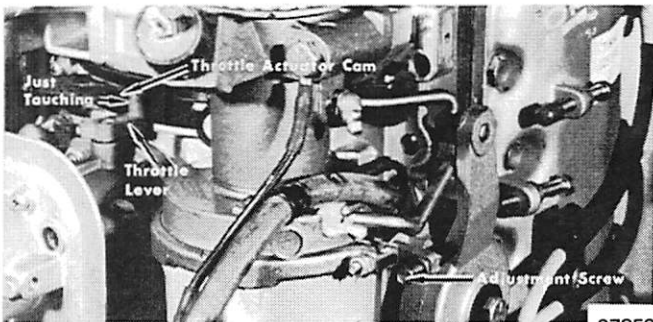

Figure 2. Adjusting Primary Pickup
4. To set primary pickup (Figure 2), advance spark as specified above and advance throttle actuator cam until it just touches throttle lever. Tighten locknut on adjustment screw between spark and throttle advance arms.